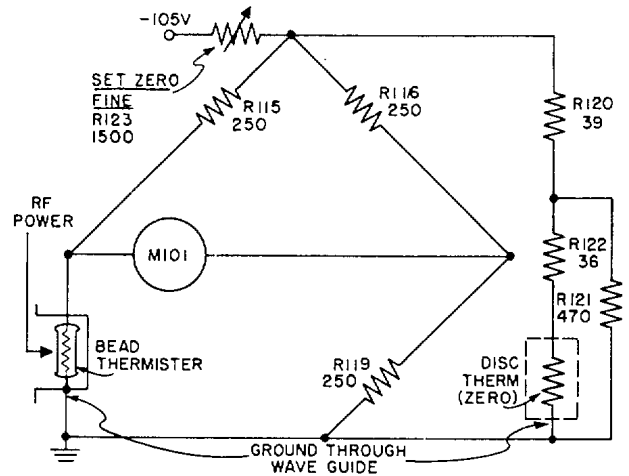

Figure 2-27. Thermistor Bridge Circuit Showing Voltage Compensation
(4) DC VOLTAGE COMPENSATION. (See figure 2-27.)
(6) HIGH SENSITIVITY. --The thermistor bridge is used as the frequency meter indicator as explained in par. 2c(2). When measuring the frequency of short RF pulses, however, the meter deflection is not sufficient to give a good indication. Therefore, a momentary switch (S103) is provided that eliminates the sensitivity compensation and thus increases the meter deflection by about 4 times. The circuit for this position of S103 (HIGH SENS) is as shown in figure 2-27. S103 is a momentary switch to insure that excessive power is not applied to the bridge while the sensitivity